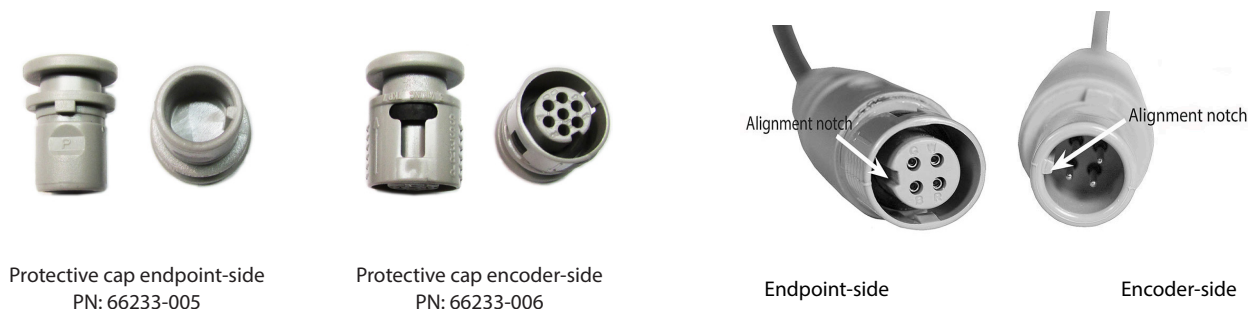

Figure 30: 308 connector ends and caps - close up view
**NOTE:** Additional removable caps are available for order. Part numbers are listed in Figure 28, Figure 30 and Figure 32.
To use the 308 connector, follow these steps and refer to Figure 30.